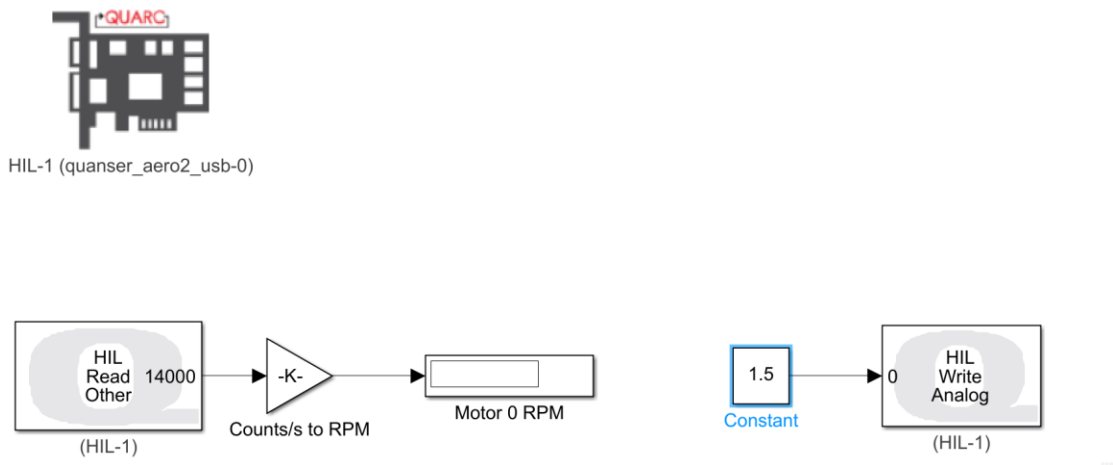

Figure 1: Simulink model used with QUARC to drive motor 0 and read the tachometer on Aero 2
1. In this lab, we will make a Simulink model using QUARC blocks to drive the DC motor in thruster 0 and measure the corresponding angular velocity, similar to what is shown in Figure 1.
3. Connect the HIL Read Other to a Gain and Display block similar to Figure 1. The *Gain* however can be left at 1. In the Library Browser, you can find the Display block from the Simulink | Sinks and the Gain block from Simulink | Math Operations.